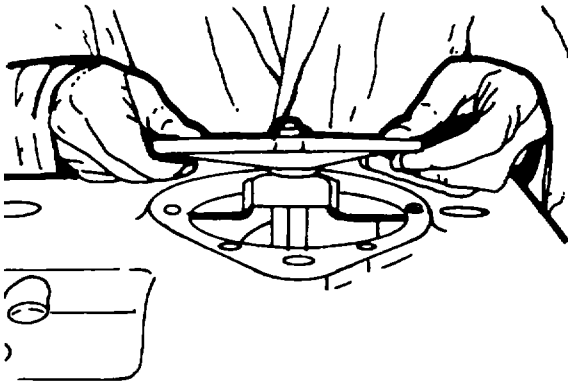

Figure 5-32. Installing Crankcase Cover
35. Install the cover on the under side of the crankcase, with a new gasket held in position with grease, so that the radial recess faces the screwed plug in the oilway. Assemble the oil drain plug, fitted with a new gasket (figure 5-32).